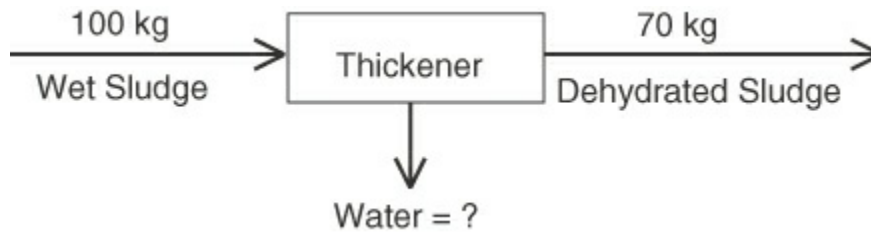

Figure P3.2.21
****3.2.21** A thickener in a waste disposal unit of a plant removes water from wet sewage sludge, as shown in Figure P3.2.21. How many kilograms of water leave the thickener per 100 kg of wet sludge that enter the thickener? The process is in the steady state.